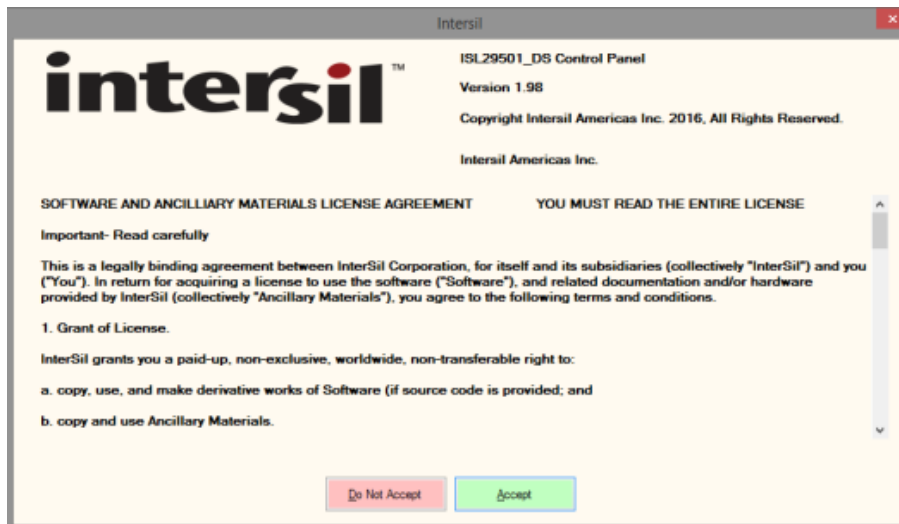

Figure 2. Intersil License Screen
2. The Intersil license agreement shown in Figure 2 appears. Read the License agreement, because you must accept the agreement by clicking the Accept button to continue. You must scroll to the end of the license before you can accept the agreement.